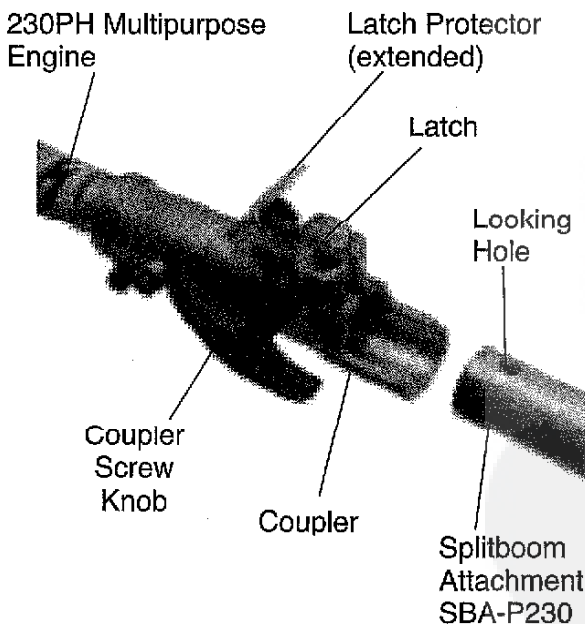

Figure 6
3. Insert the tube into the coupler, with the tool decal facing up, until the line of the decal is flush with the end of the coupler. Twist the tool back and forth until you are sure it snaps in place by the coupler latch. See Figure 6.